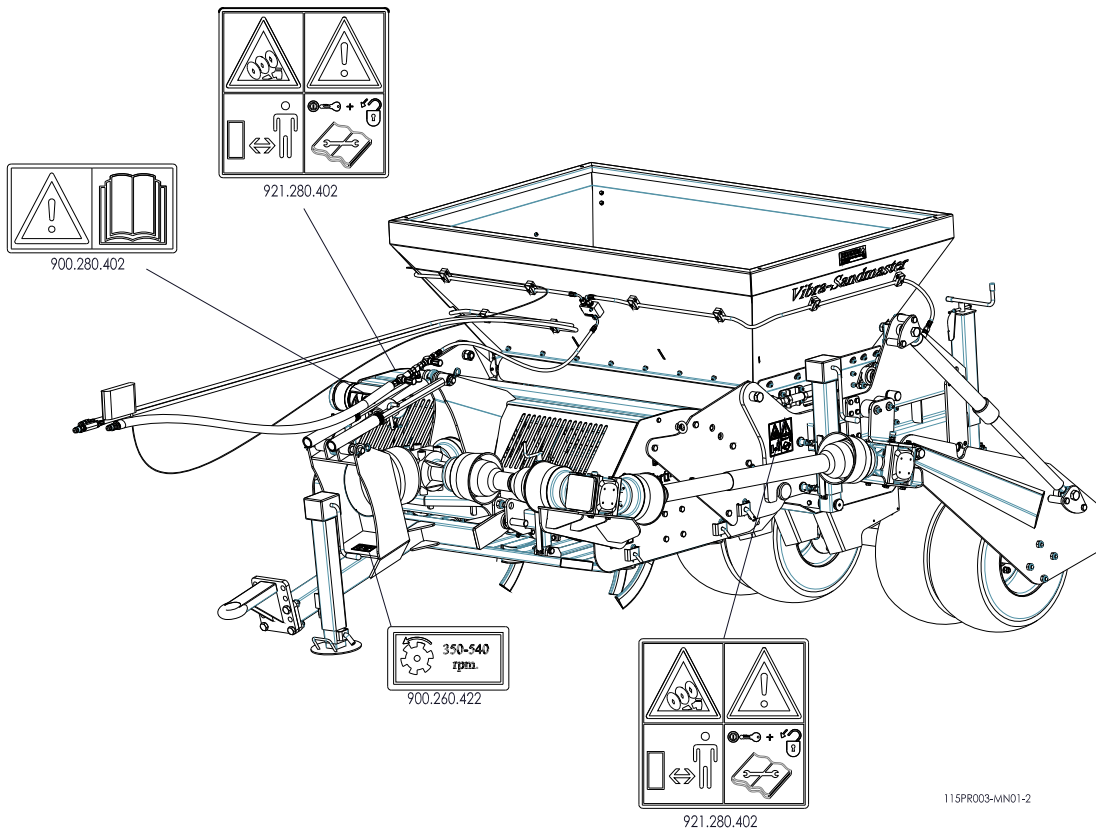

Fig. 5
There are safety stickers (Fig.5) on both sides of the Vibra-Sandmaster, one on the side panel (Fig. with an identical meaning. These safety stickers must be clearly visible and legible at all times and replaced when damaged.
(7) Locations of safety stickers. (Fig 5.).